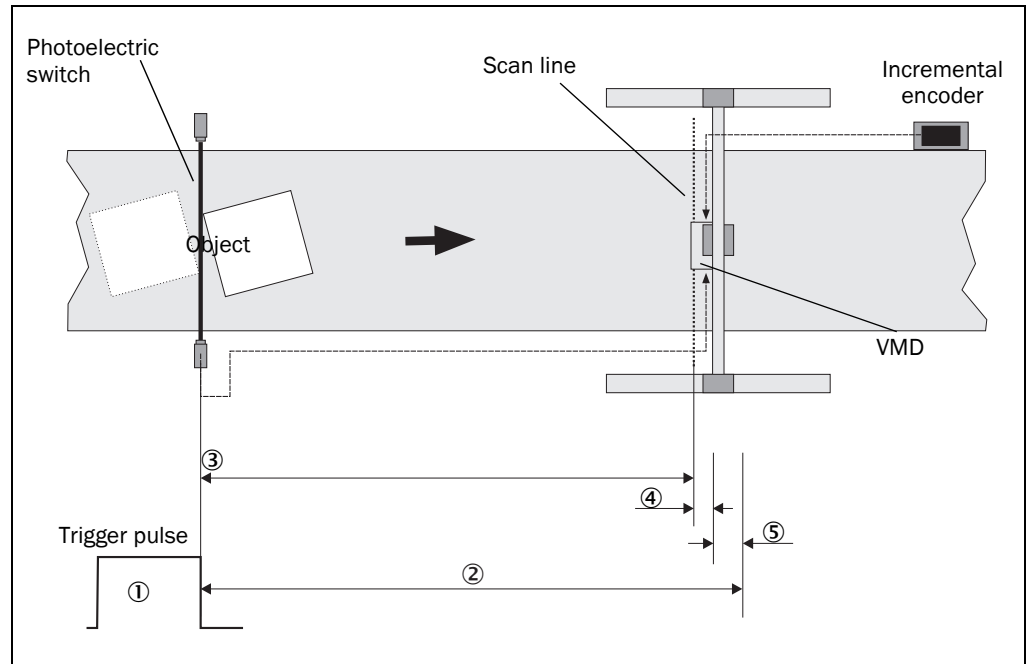

Fig. 6: Laser off distance
A laser off distance ② is configured in SOPAS (see Fig. 6). This distance is formed from the addition of the distance from the photoelectric switch to the scan line ③, the defined minimum object gap (default 30 mm (1.81 in)) ④ and a safety supplement (200 mm (7.87 in) recommended) ⑤.